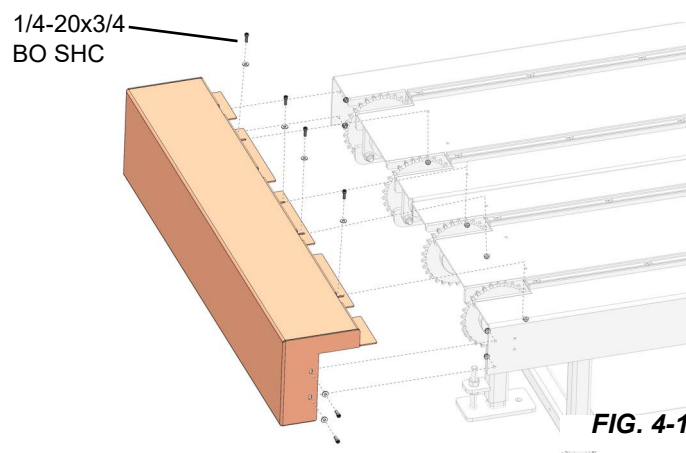

FIG. 4-13
4. Install the sprocket cover as shown in FIG. 4-13.